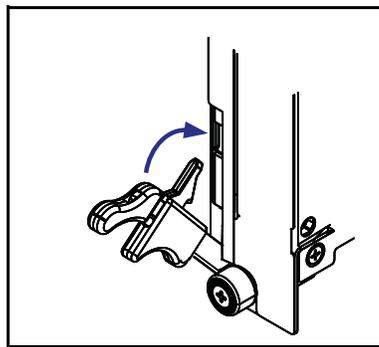

Figure 4.3 - Close Handles
3. When the PPM is inserted all the way into the shelf, simultaneously close both ejector handles inward. This seats the PPM connectors into the shelf backplane (**Figure 4.3**).